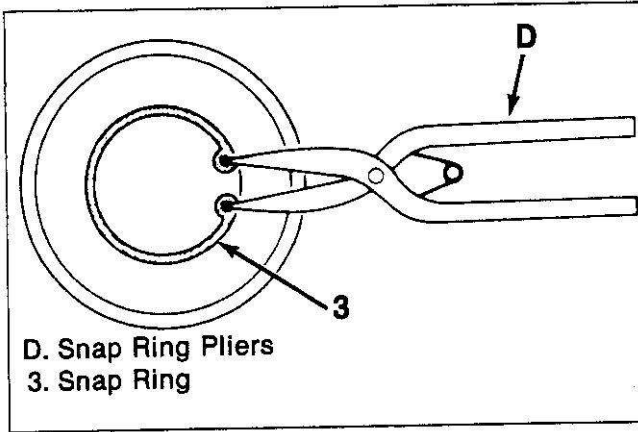

Figure 11. Removing Snap Ring
4. Dust seal (2).
5. Snap ring (3) using snap ring pliers (figure 11).